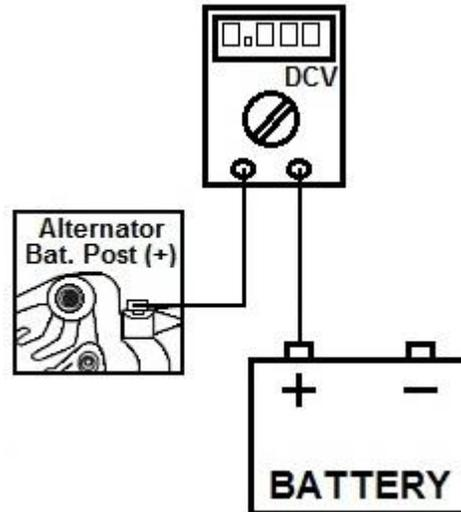

Figure 2
- With a voltmeter, measure the voltage drop between battery (+) and alternator output post (Figure 2). Your voltage should be less than 0.40VDC. If it is higher, it may be poor connections between the alternator and battery. It could also be undersized battery cables, loose or improperly crimped terminals, or corroded connections.